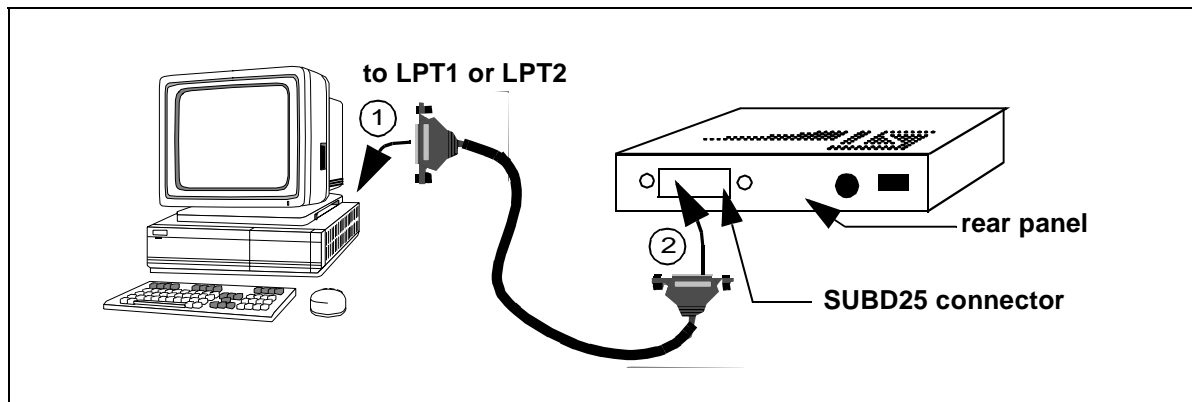

Figure 3: Connecting the Emulator to the PC
- 2 Connect one end of the parallel cable to the emulator's rear panel 25-pin SUB-D connector and the other end to one of the PC's parallel ports (LPT1 to LPT2)—refer to *Figure 3*.